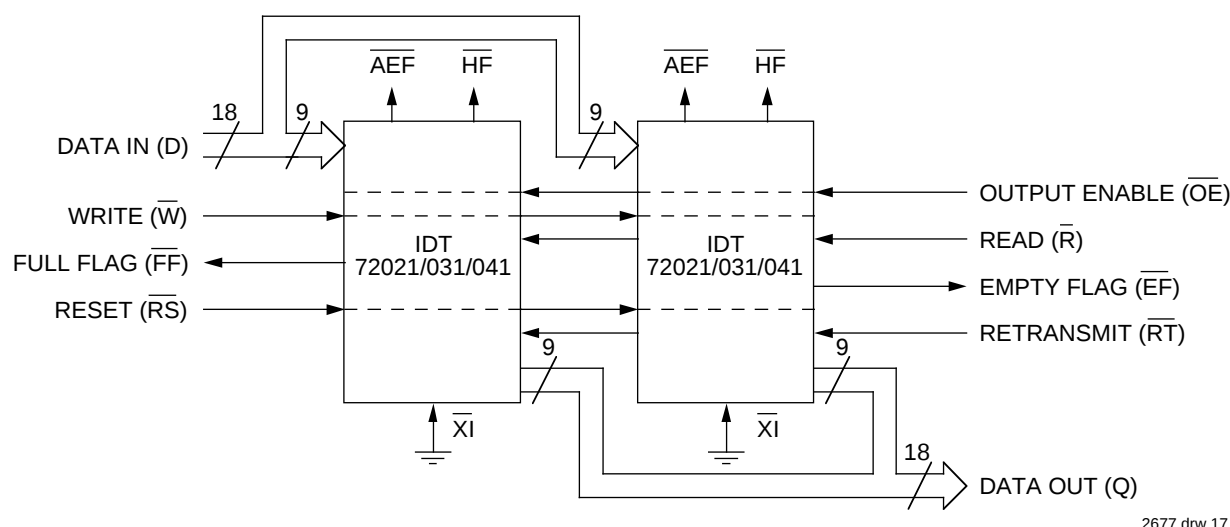

Figure 14. Block Diagram of 1K/2K/4K x 18 FIFO Memory Used in Width Expansion Configuration
device. Figure 14 demonstrates an 18-bit word width by using two IDT72021/031/041 devices. Any word width can be attained by adding additional IDT72021/031/041s.
2. For Flag detection see section on Width Expansion and Figure 14.